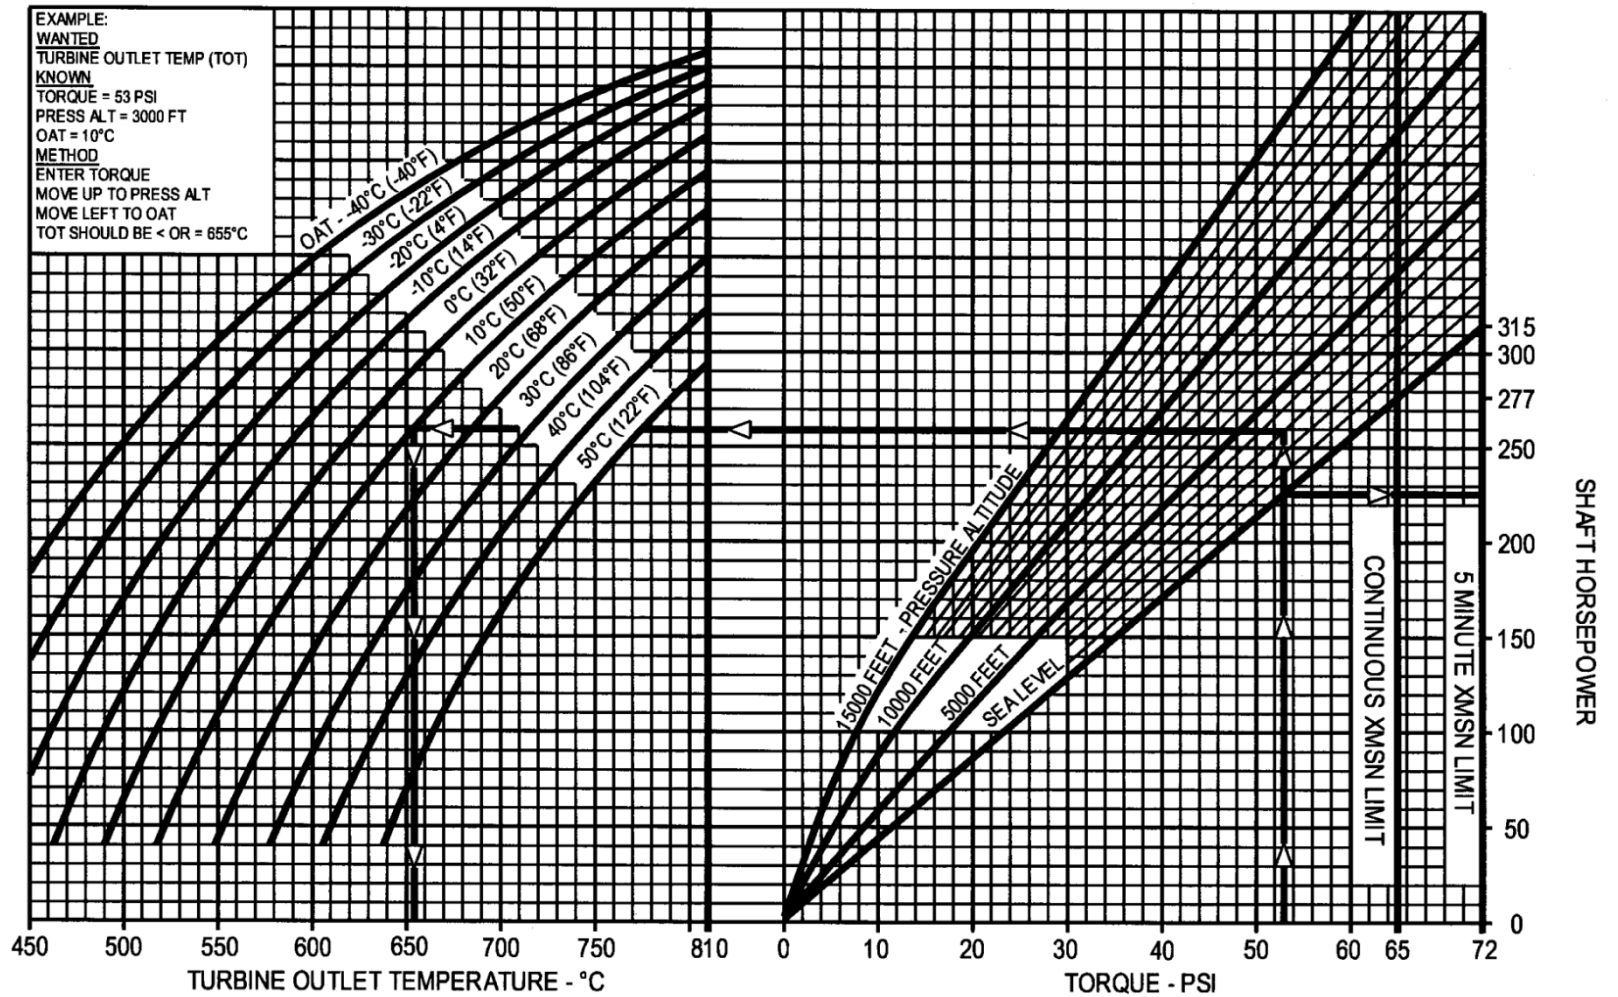

Figure 4-7. Power Assurance
1. The Power Assurance Chart (Figure 4-7) provides the pilot a method for assuring that the installed engine will provide the necessary power required to achieve the performance presented in this manual.